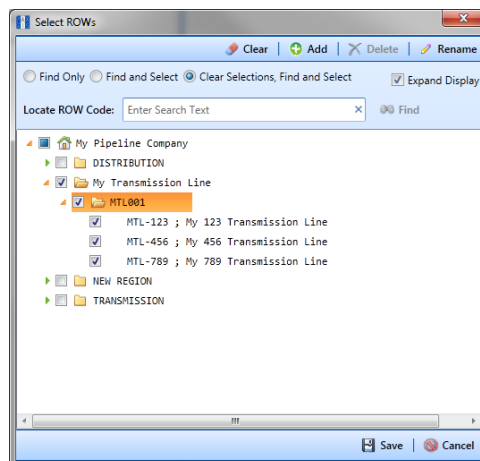

Figure 9-27. Select ROWs
- 1 Select one or more pipeline segments in the *Select ROWs* window. Choose pipeline segment(s) with facilities you want to include in the Bridge definition. Click  **Save** to close the window (Figure 9-27).